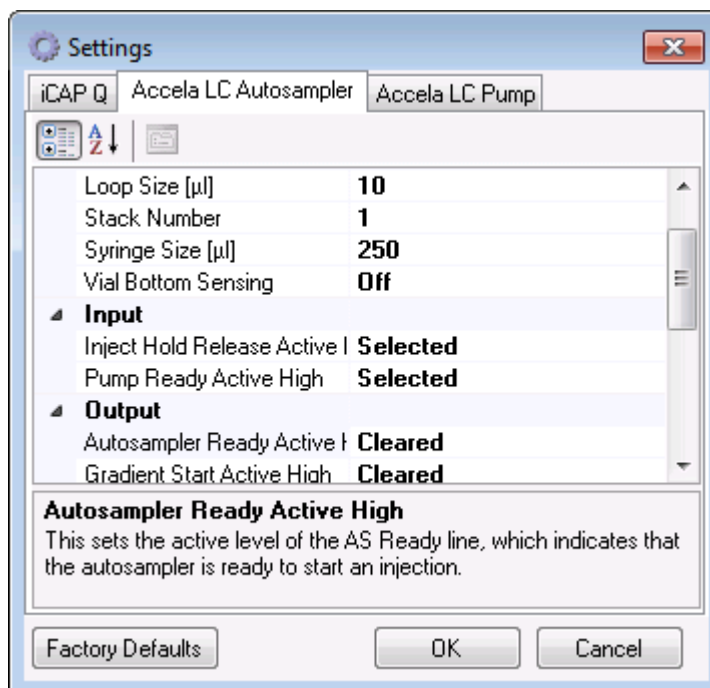

Figure 3-15. Settings window for Instrument in Configurator
4. Click  Edit settings... to open the **Settings** window, see Figure 3-15.